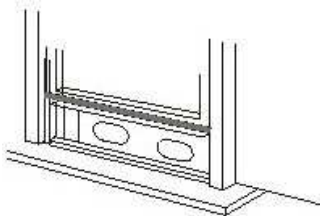

Fig.7
3. Trim the foam seal (adhesive type) to the proper length and place on top of the slider kit. (Fig.7)